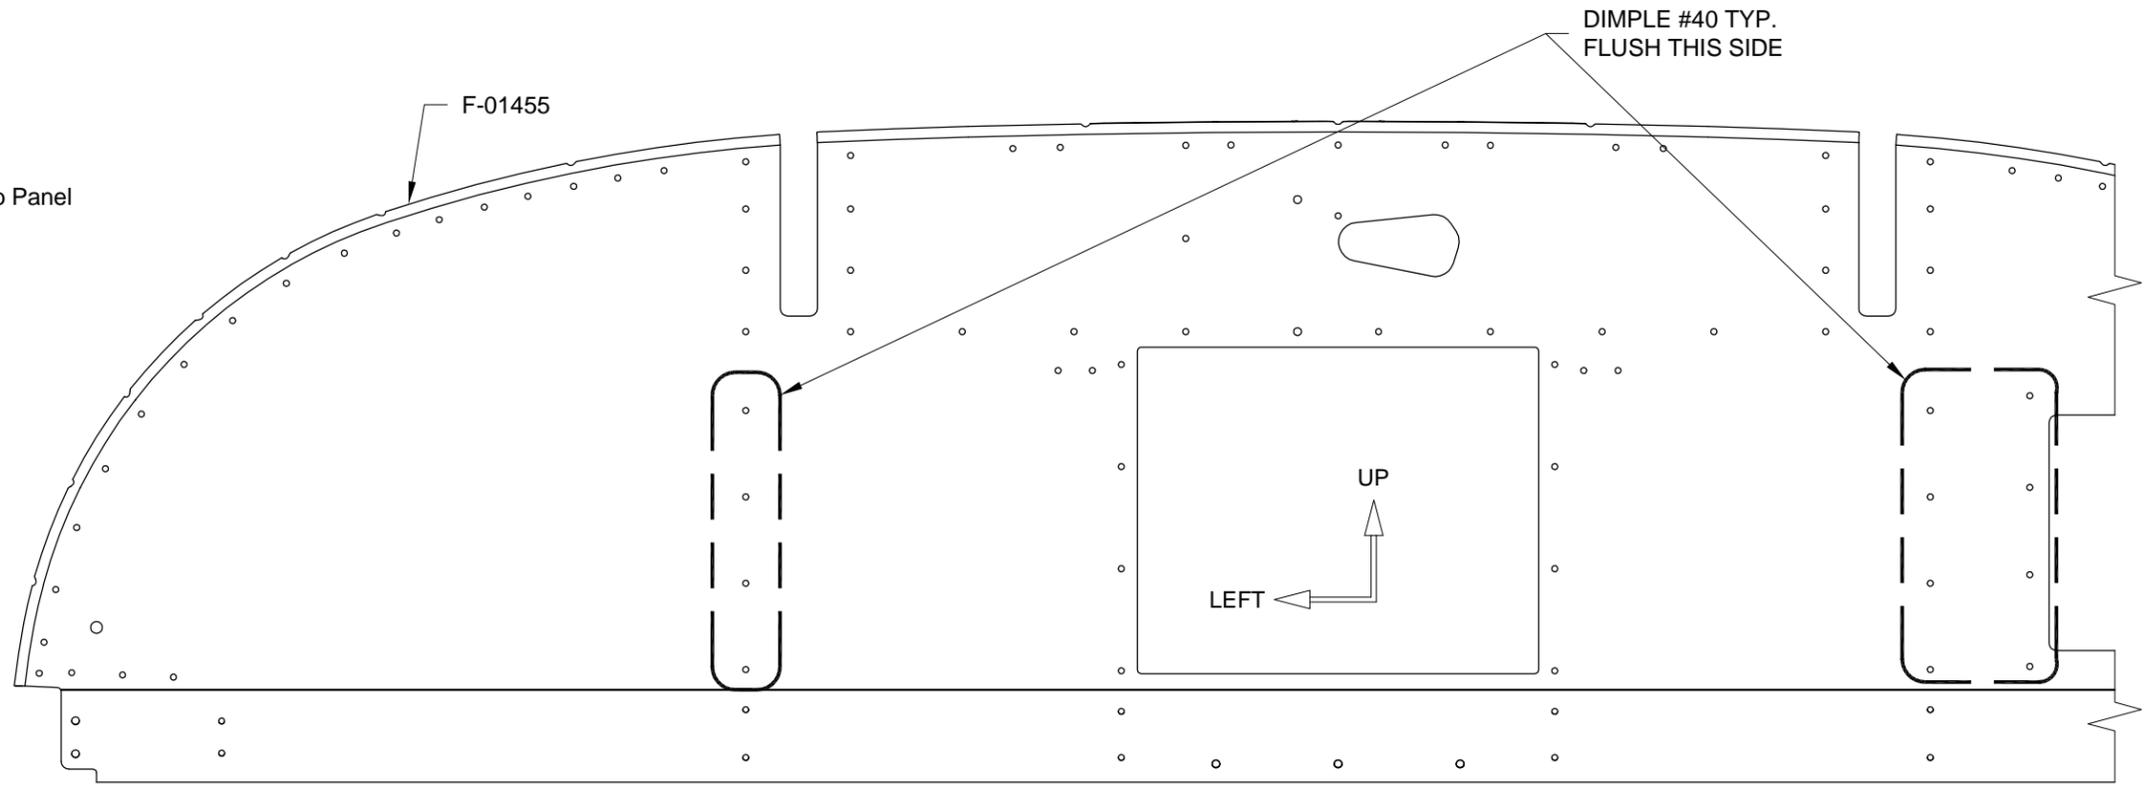

FIGURE 1: DIMPLE SUB PANEL
Step 1: Dimple the #40 holes where indicated in the F-01455 Sub Panel aft face as shown in Figure 1.